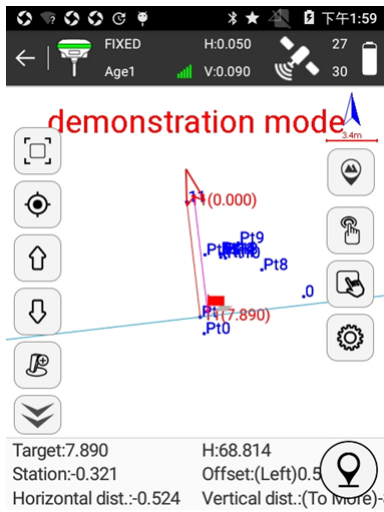
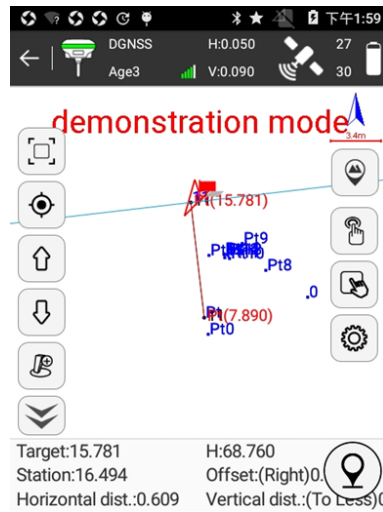

Figure 5.15-1
Figure 5.15-2
Press [Survey]-> [Existing Stakeout] and select an existing line to stakeout as shown in Figure 5.15-1.
- (1) Enter Stake Existing Lines and set start line or import line files.
- (2) Select target line and press [OK] to enter stakeout interface as shown in Figure 5.15-1. The normal line is generated at the center point, which is conducive to measuring cross section. The vertical line of normal line is formed by overturning the front point, which can help to distinguish the direction.
- (3) Measure cross section of mileage at current point according to line mileage, line offset, horizontal distance and vertical distance in bottom status.
- (4) Press  to collect data at current coordinate, that is, cross section.
- (5) Press  to connect end point and current point of stakeout line as shown in Figure 5.15-2. Press Stake Existing Lines and it can view parameters of connection line.
- (6) Move current point and repeat step 4 and 5 until complete all existing line stake-out.
- (7) The adjacent center points can be switched automatically by  and  keys to measure cross section.